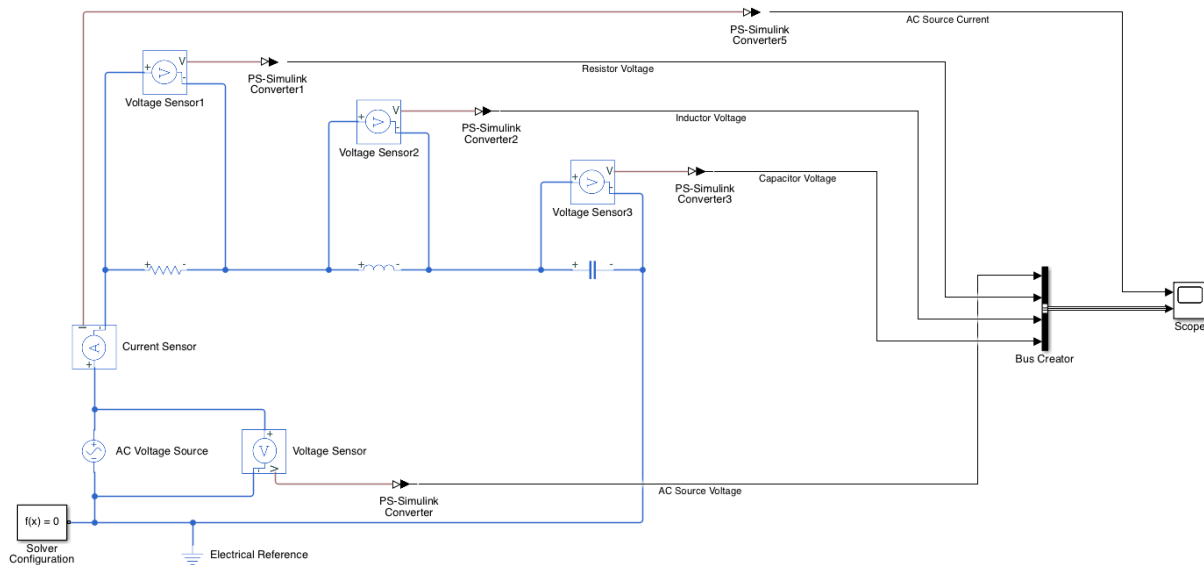
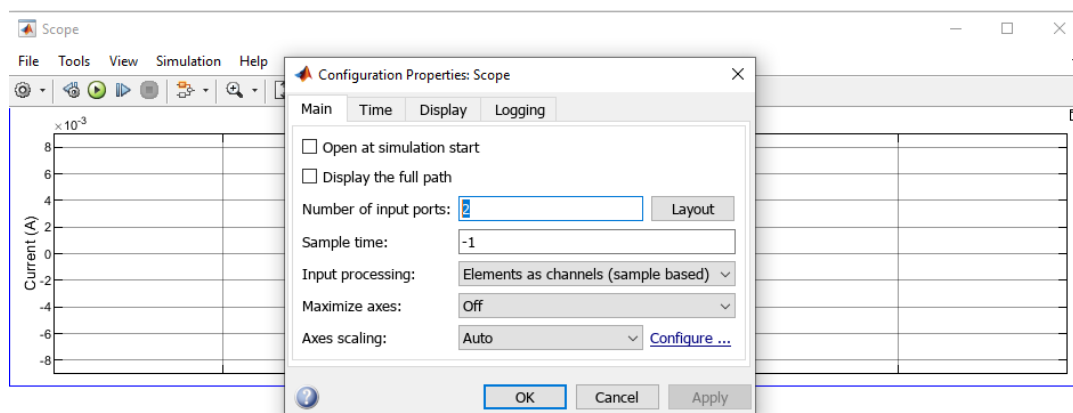

Figure 4: RLC Circuit 1 Block Diagram
Figure 7: Changing Number of Ports on Scope
1. Start by creating the block diagram in Simulink for circuit 1 as you see it in figure 4.
- The Scope block is capable of receiving multiple inputs and then display them in a specified layout. To increase the number of ports on the Scope to two as shown in figure 4, open the Scope block and hover over “View”, then Configuration Properties and change the “Number of Input Ports” to 2. This is shown in figure 7.